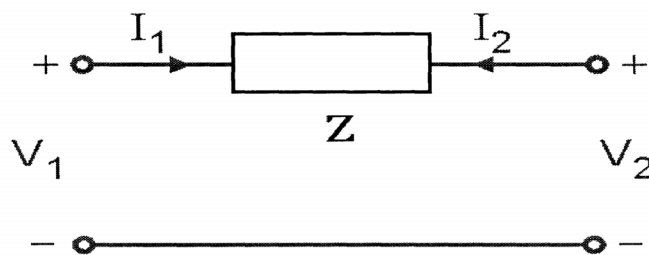

Fig. No.5
- Q6) a)** Find the Y- parameters of the network shown in Fig. No.5 [9]